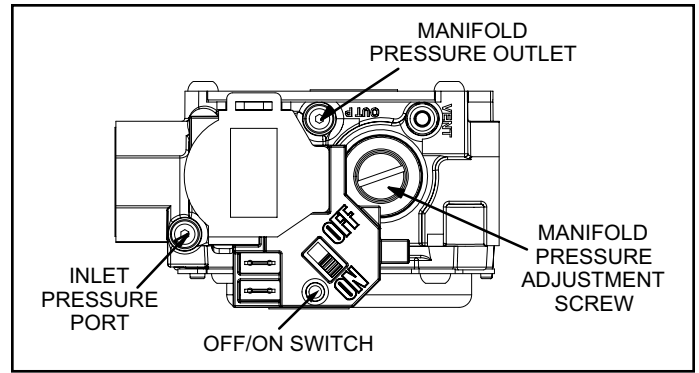

Figure 6. Gas Valve
3. Slide the gas valve switch to the "ON" position (see Figure 6).
2. Slide the gas valve switch to the "OFF" position (see Figure 6).
manifold pressure vary more than 0.3” w.c. from the above specified pressures. To adjust the regulator, turn the adjusting screw on the regulator clockwise to increase pressure and input or counterclockwise to decrease pressure and input. See Figure 6 to assist in locating the regulator on the gas valve.
1. Slide the gas valve switch to the “OFF” position (see Figure 6).